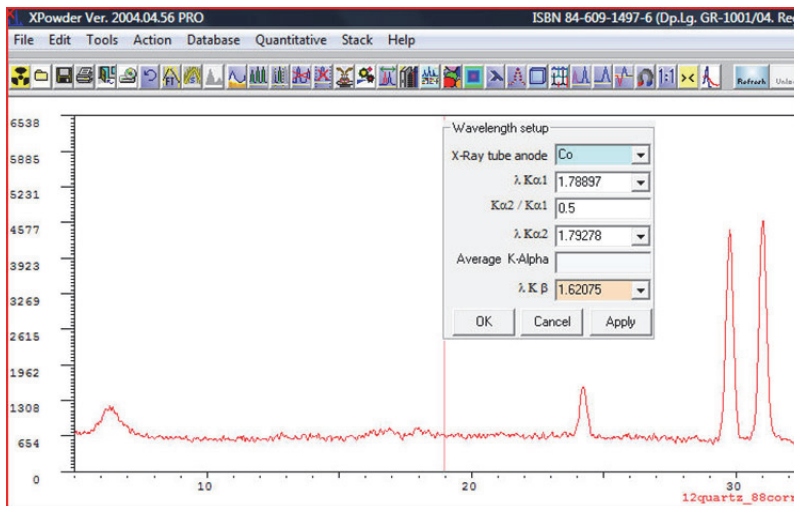

Figure C-4 Results screen and Wavelength setup dialog box
4. Click **Open** to display the XPowder home screen and the superimposed **Wavelength setup** dialog box (see Figure C-4 on page 91).